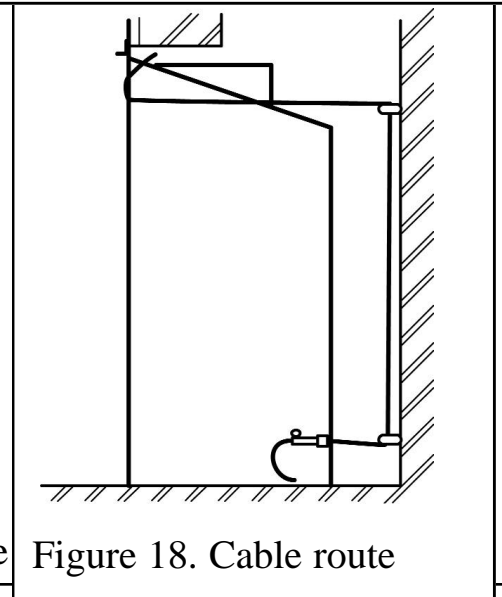

Figure 18. Cable route
6. Thread the cables through the eyebolts. Return the cables through the holes near the bottom of the hotbox back panel (See figure 18) (**For precast or clay block flue systems return the cables through the slotted holes in the side of the hotbox**).